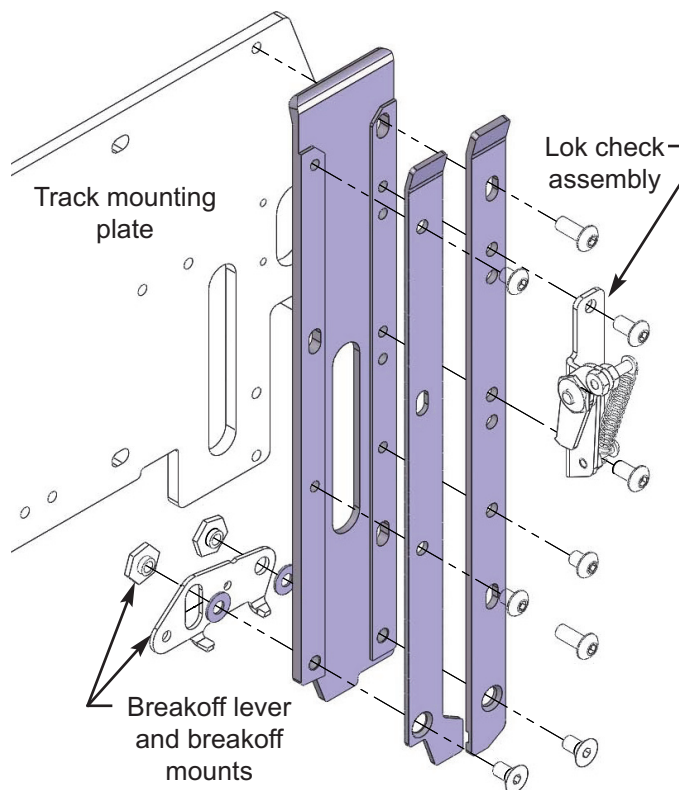

Figure 2.4
C. MODIFY THE CLOSER LOK TRACK: Figure 2.4